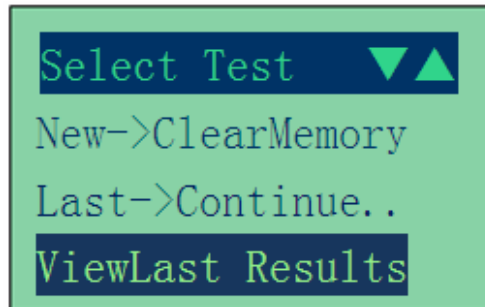

Figure 56
3. Pressing  key once will scroll down to the 'View Last Results' Fig. 56 below.